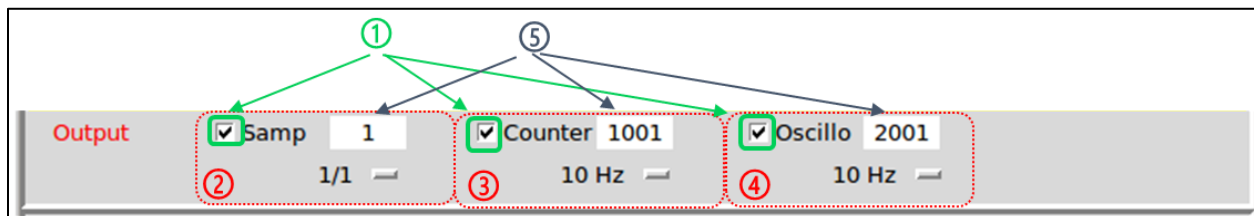

Figure 32: parameters of the Data output module
The Data output module (Figure 32) defines the output data sent to the computer by checking buttons ①. These data are:
- the data processed by the SAMPLER module ②,
- the counting data ③,
- the data from the Oscilloscope module ④.